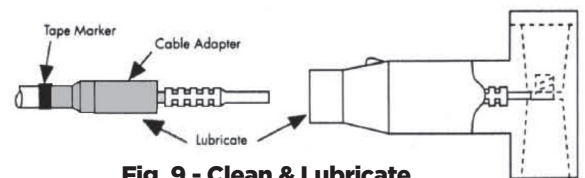

Fig. 9 - Clean & Lubricate
- A. Clean and lubricate the cable entrance of the T-Body and the outside of the cable adapter with supplied lubricant. (See Figure 9.)